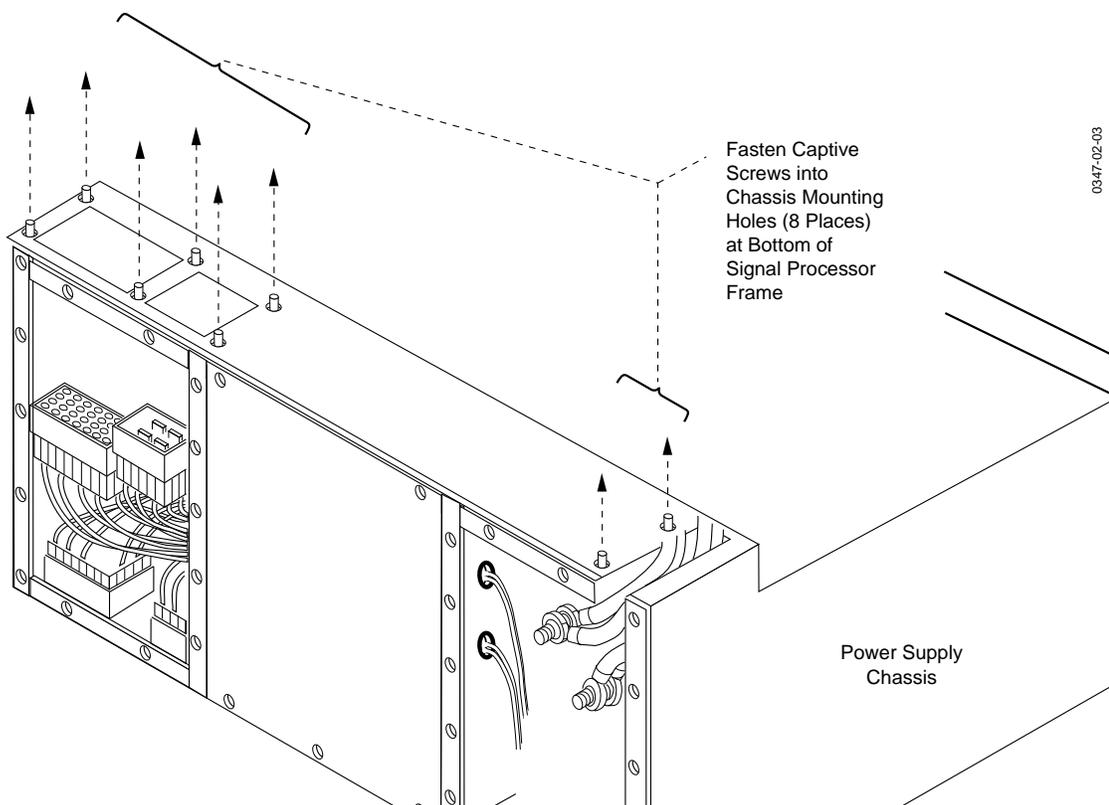

Figure 2-9. Captive Screw Locations, Frame Power Supply (rear view)
9. At the rear of the unit, install the 8 “captive” screws (see Figure 2-9) through the top of the power supply chassis into the bottom of the Signal Processor Frame. Tighten the 8 screws securely.